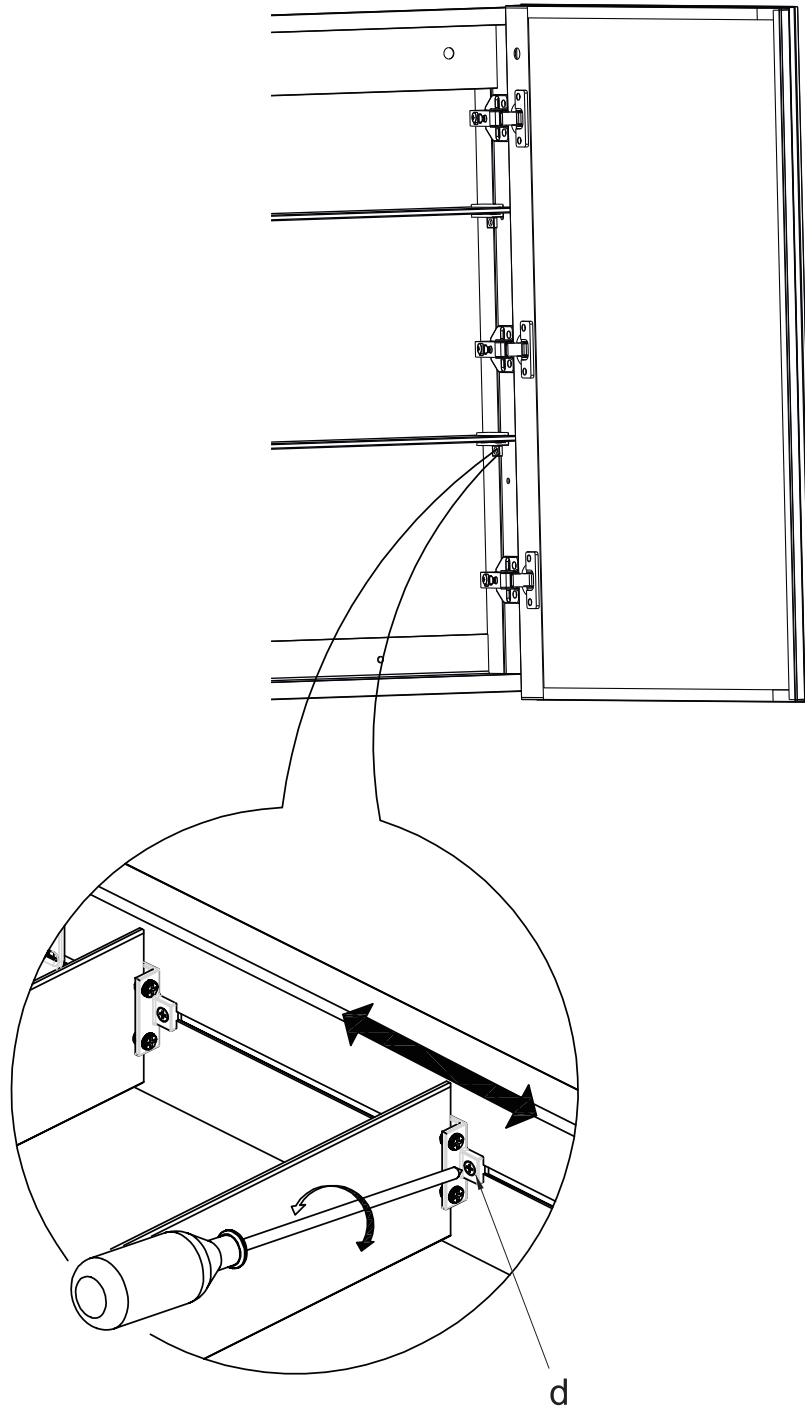

Fig.24
4. Loosen the snap screw (d) of the shelf to adjust the shelf position (Fig.24).